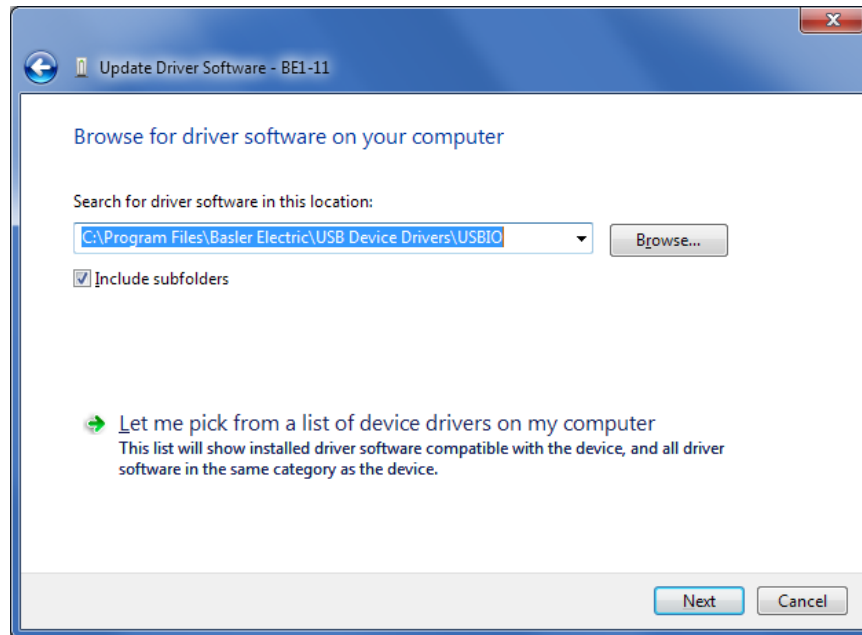

Figure 45-5. Update Driver Software - BE1-11
Step 5. Click Browse and navigate to C:\Program Files\Basler Electric\USB Device Drivers\USBIO. Click Next. See Figure 45-5.